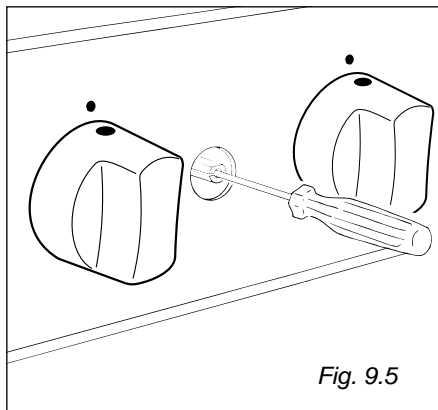

Fig. 9.5
- With a small flat screwdriver turn the screw inside the tap rod to the correct regulation (fig. 9.5).